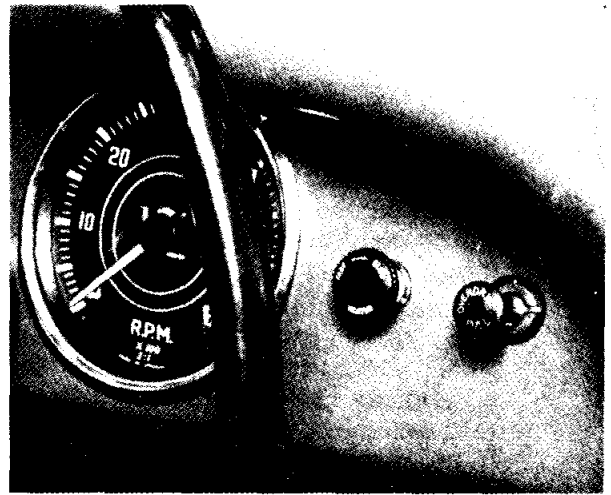

Fig. 37 Showing the position of the Overdrive Control.
R.H. Drive Cars. Two holes are pierced in the facia panel on the R.H. side of the speedometer and covered with fabric. The fabric should be pierced through the extreme R.H. hole and the operating switch fitted (see Fig. 37). The remaining hole is used for a heater switch when fitted.